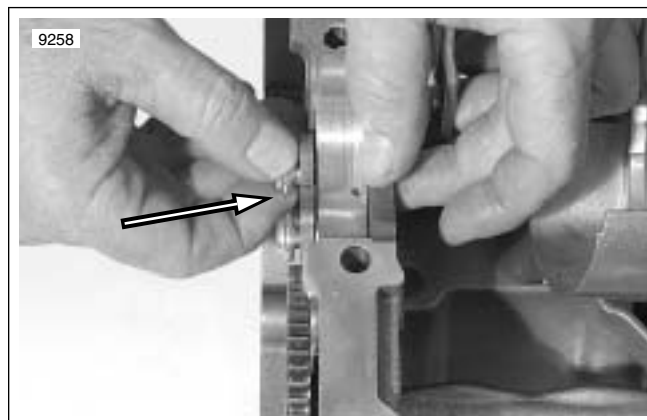

Figure 3-131. Input Shaft Bearing Retainer
4. See Figure 3-131. Install input shaft bearing retainer loosely in place.
- See Figure 3-131. Check that upper crankcase input bearing retainer is loosely in position.